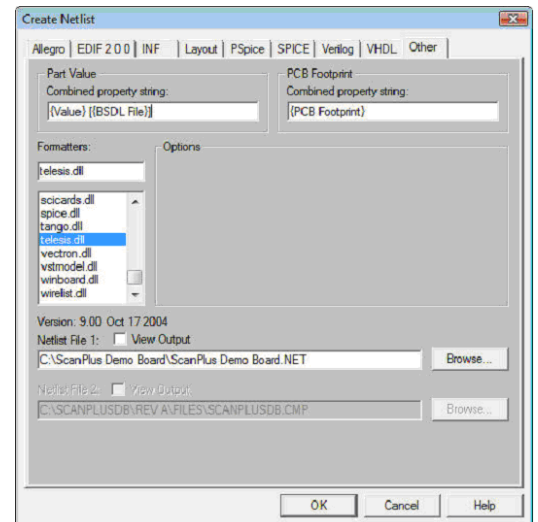

Figure 5: Create Netlist Dialog
4. Add the “BSDL File” field to the “Part Value” combined property string as shown in Figure 5. The “{}” brackets are required. The “[]” brackets are optional but their use makes the information in the netlist easier to read. Please note there is a space between the {Value} string and the next bracket
5. Specify the desired output file name in the “Netlist File” text box. Figure 5 shows an example after these steps have been completed